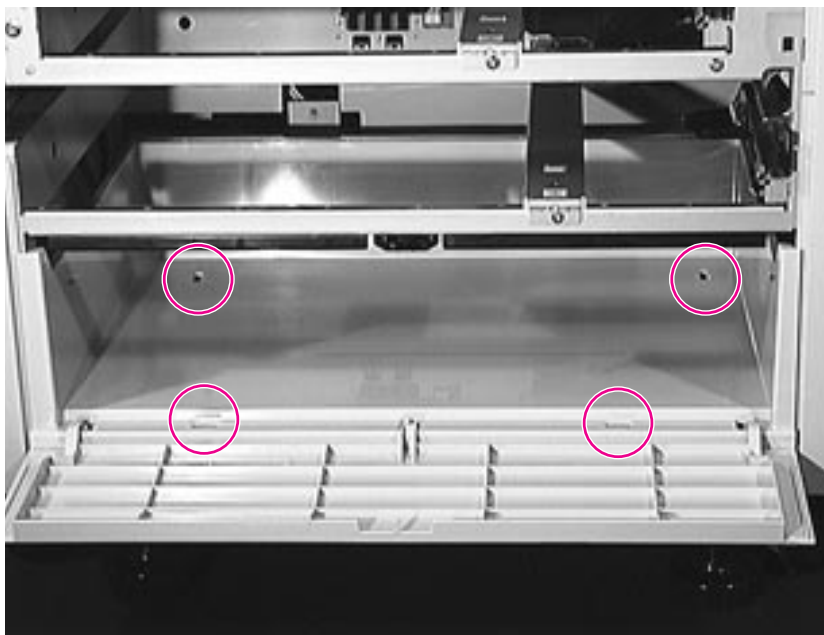

Figure 6-150 Storage Paper Tray
- 3 Use a flat-blade screwdriver to release the tabs inside the holes indicated in figure 6-150.